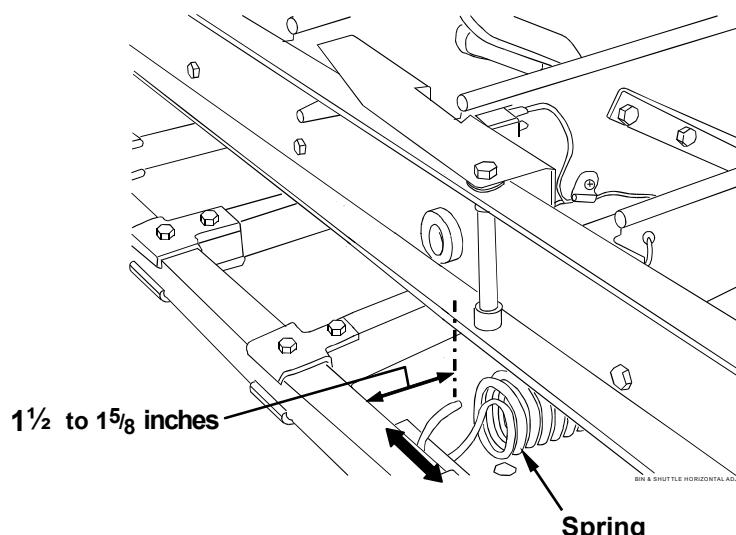

Figure 4.2-31
1. With Durabin 2, there should be approximately 1-1/2 to 1-5/8 inches between the back edge of the Bin's back channel and the leading edge of the Shuttle assembly measured at the center of the Bin (see Figure 4.2-31). To adjust,